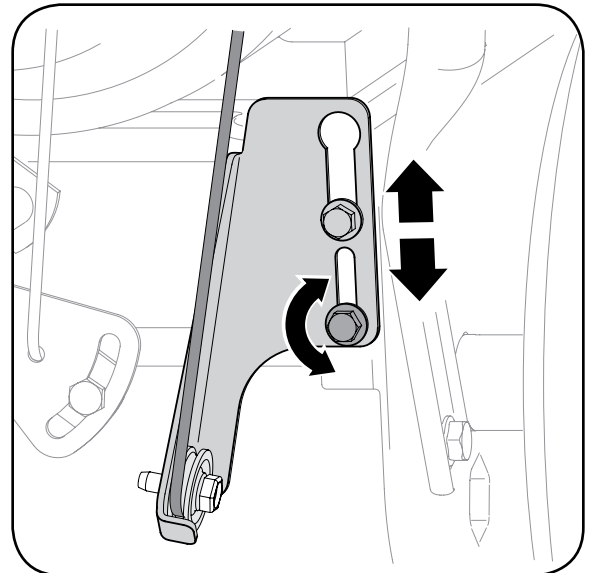

Figure 5-2
5. Loosen the lower hex nut on the drive cable bracket, Figure 5-2.